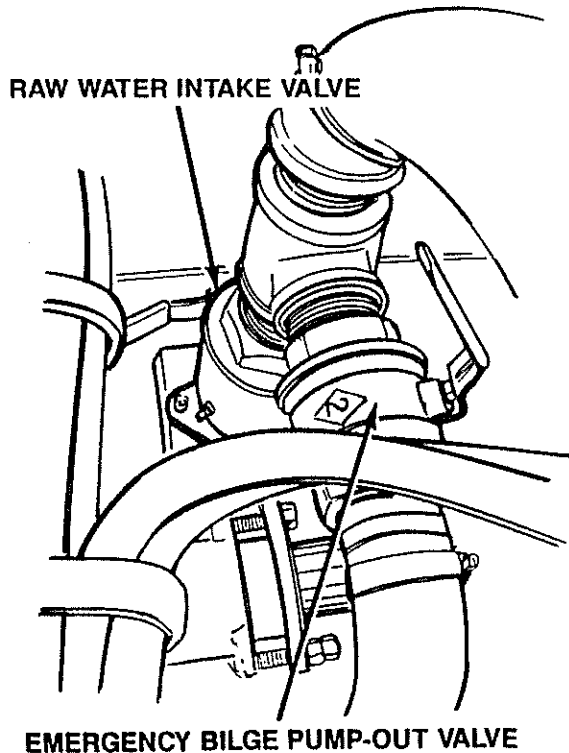

Figure 3-5 Engine Raw Water Intake Valve
8. See Figure 3-5. Open both engine raw water intake valves. Valves are open when handles are in line with hoses. Make sure engine pump-out valve is closed.